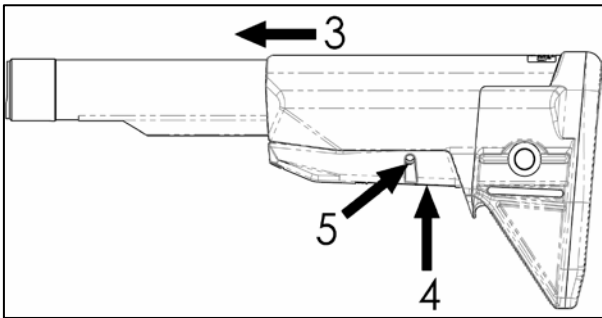

Figure 1.
3. Place stock onto the end of receiver extension and slide until it stops. (See Fig. 1.) **Do not force.** If the stock does not fit, confirm that the tube is Mil-Spec diameter.
4. Squeeze external hand lever until holes on both sides of the stock align with the holes inside the stock. (See Fig. 1.)
5. Insert a rod (diameter of an AR-style platform firing pin) into the holes, until the rod is visible through and protruding to the other side. (See Fig. 1.)